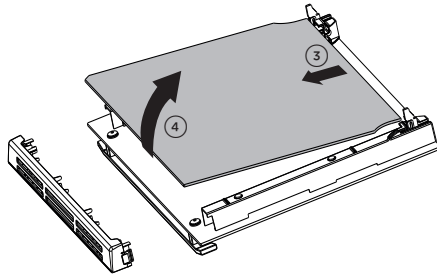

Fig. 11.17
- Gently lift and pull out the inner pane of glass by releasing it from the bottom retainers. Do not angle the pane too much as you may damage the glass (fig. 11.17).